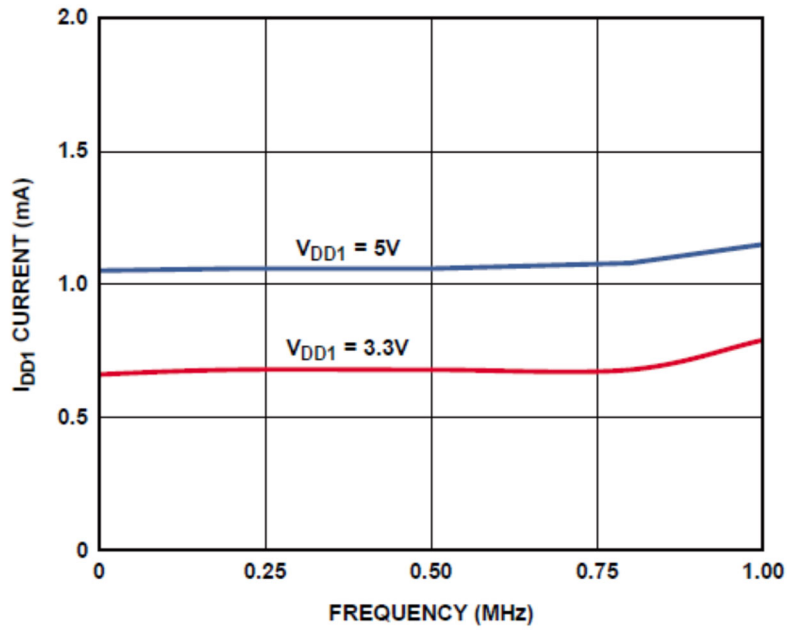
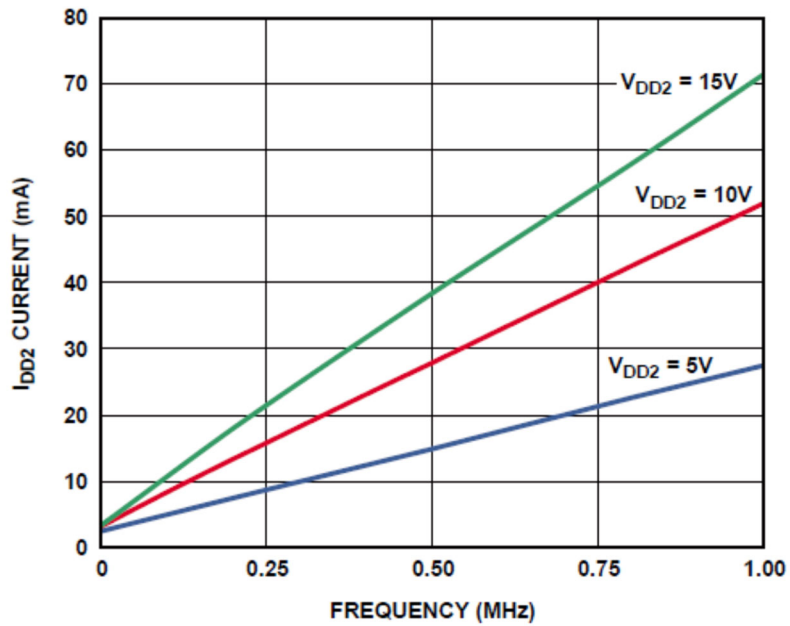

FIGURE 5. Supply current for isolator side 1 versus frequency.
FIGURE 6. Supply current for isolator side 2 versus frequency with 2 nF load.
- 3/ The supply current values for both channels are combined when running at identical data rates. Output supply current values are specified with no output load present. See figure 5 and figure 6 for total V_{DD1} and V_{DD2} supply currents as function of frequency.